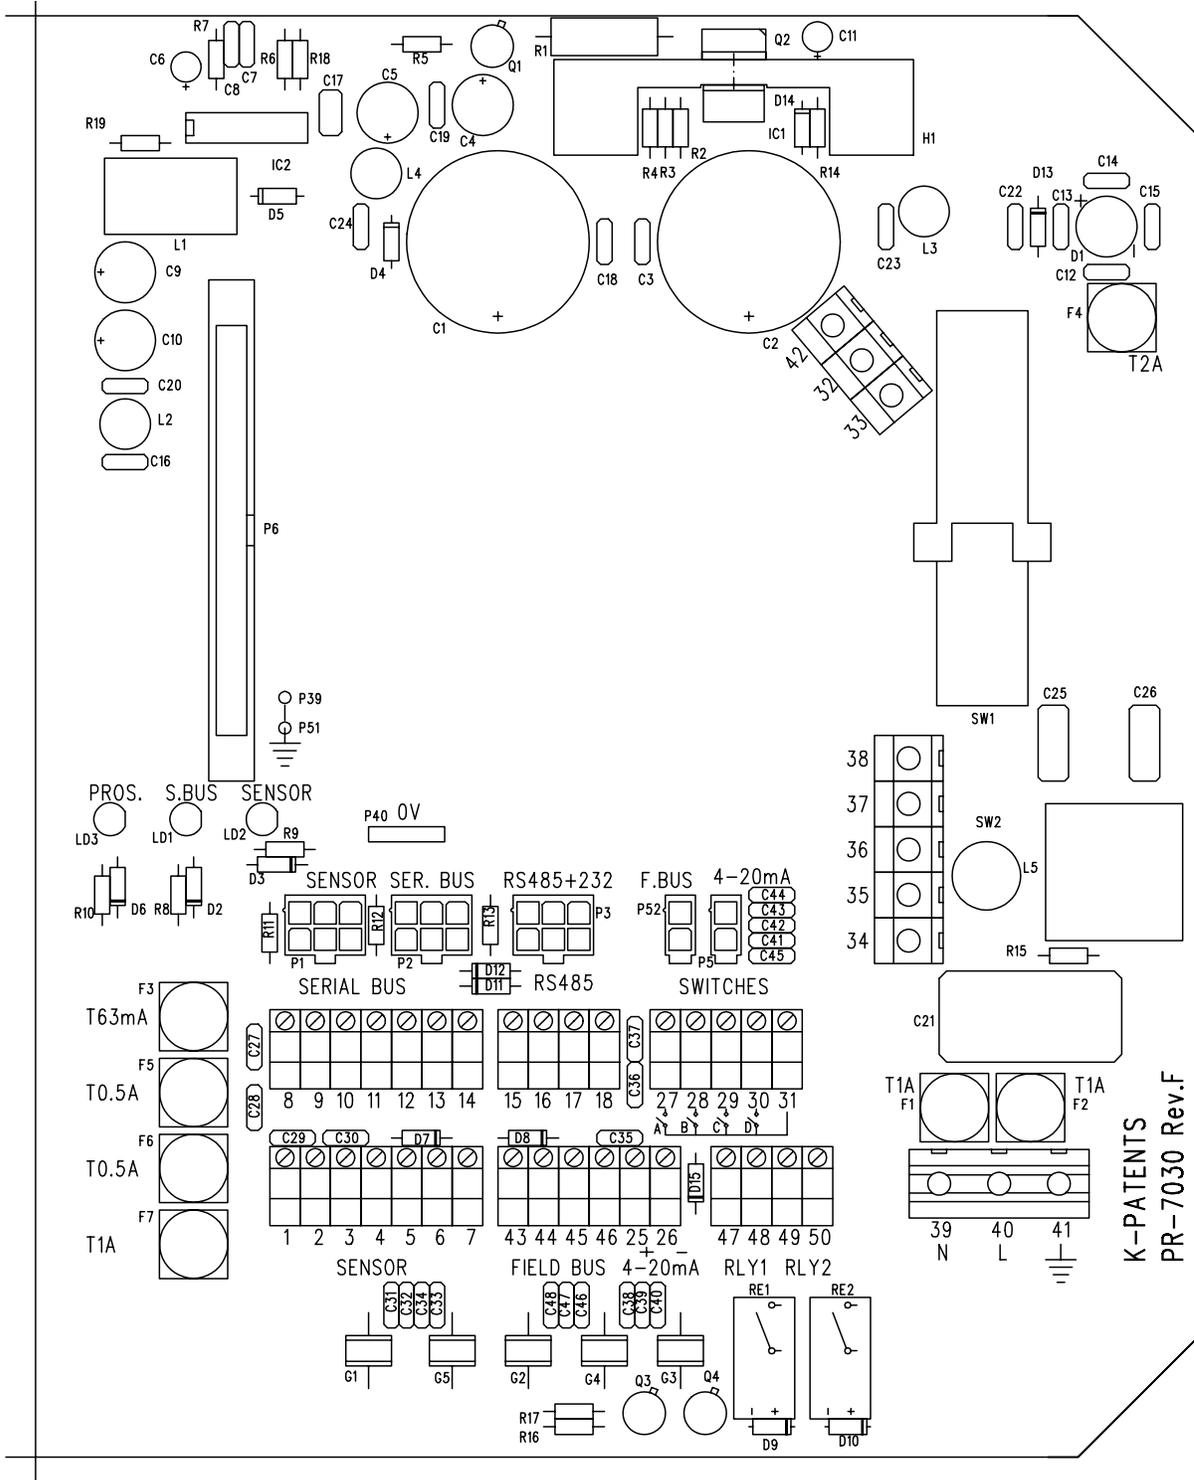
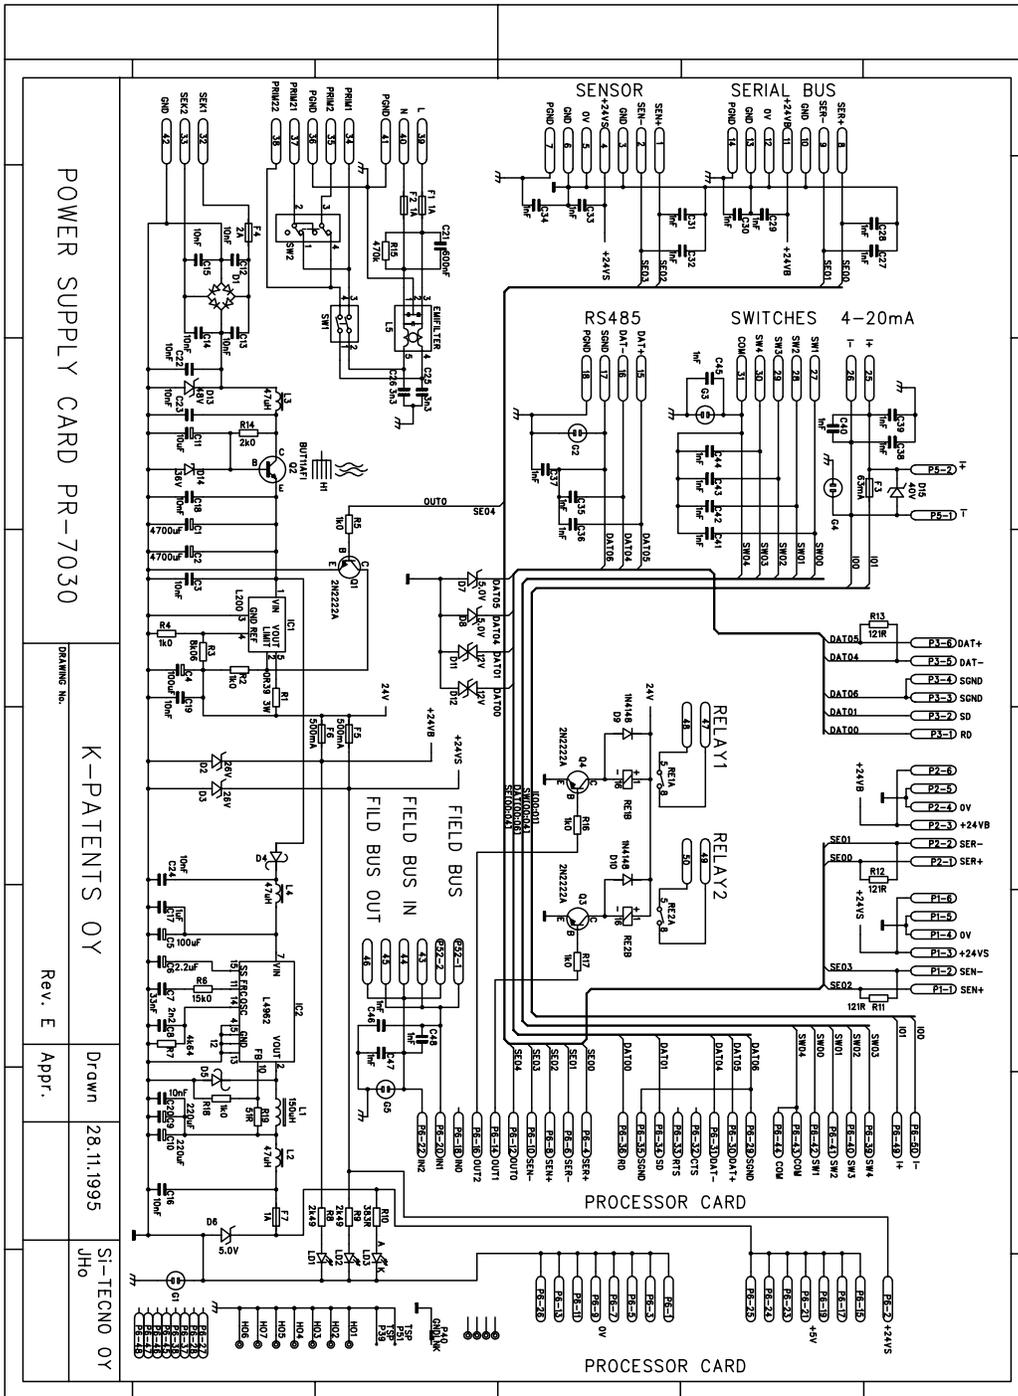
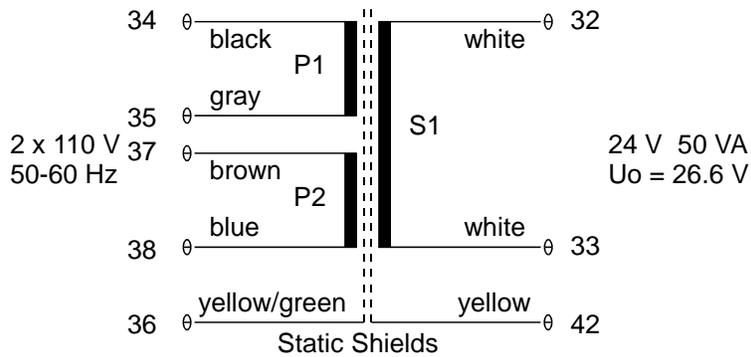

Figure 6.40 Power supply card component lay-out.
Figure 6.41 Power supply card circuit diagram.
Figure 6.47 Transformer.
The Power supply card is described by Figure 6.40 component lay-out and Figure 6.41 circuit diagram.
1. +5V to Processor card. Should be $5V \pm 5\%$. Typical load about 350 mA, should be below 500 mA. Indicated by the green LED LD3, see Figure 6.40.
The Test point "0V", see Figure 6.40, is also the 0V at the Processor Card, in the Sensor and in the serial bus to accessory units.
For transformer colour code, see Figure 6.47. The leads are connected to the following Power card terminals (compare to Figure 6.40):